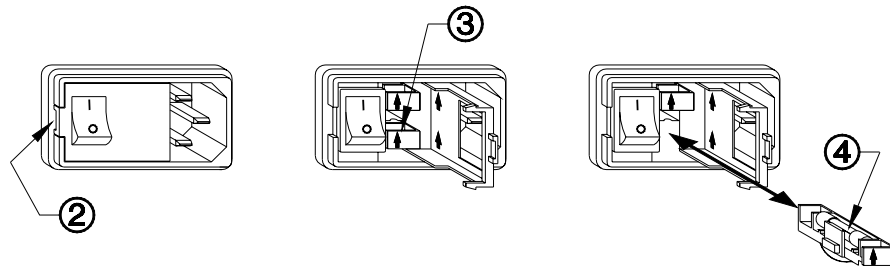

Figure 10-1 Readout Fuse Replacement
2. Insert the tip of a small flat bladed screw driver into the notch of the power entry module just to the left of the switch. Twist the screw driver to open the fuse cover door. (See Figure 10-1).